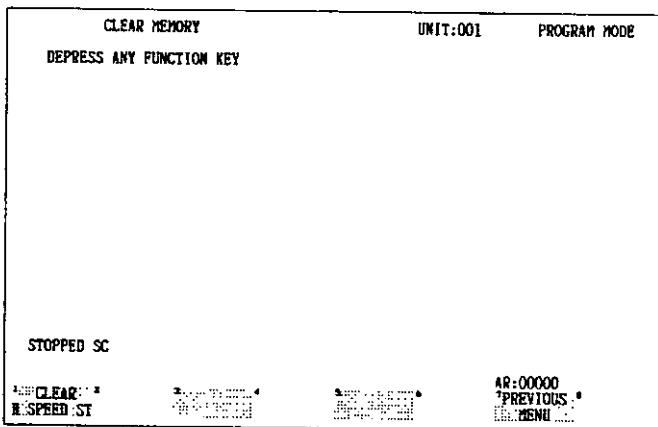

Fig. 3.19
2. PREVIOUS MENU selection in Fig. 3.19 calls up the display shown in Fig. 3.18.